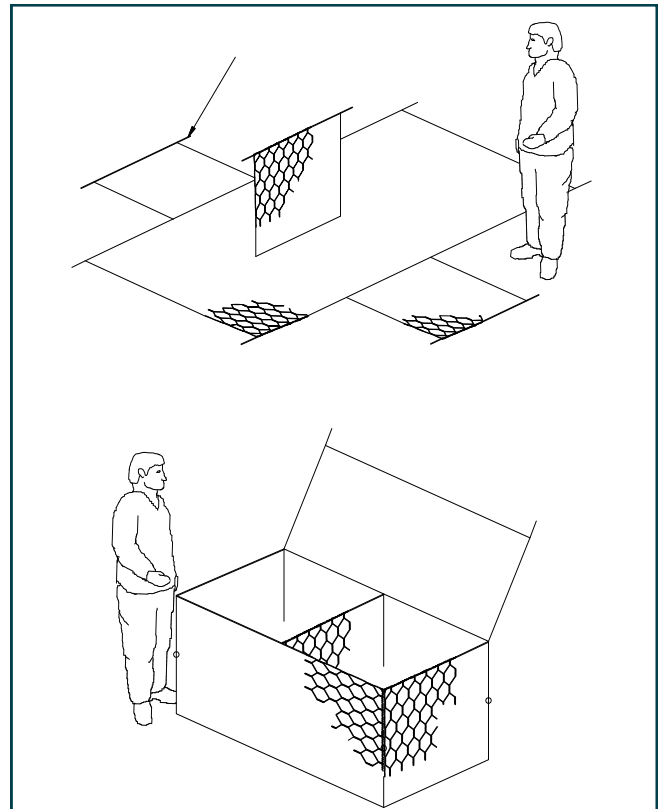

Figure 1
1.) **Assemble the facing section** by erecting the front, back panel, and diaphragm. Ensure that all panels are in the correct position, and the tops of all sides are satisfactorily aligned as shown in Fig 1.